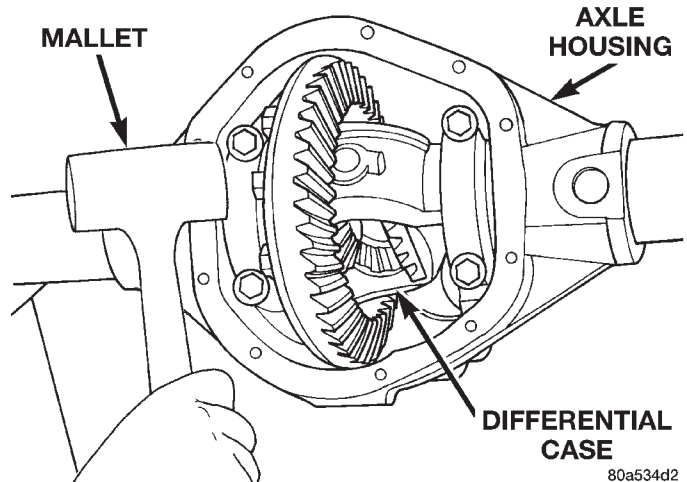
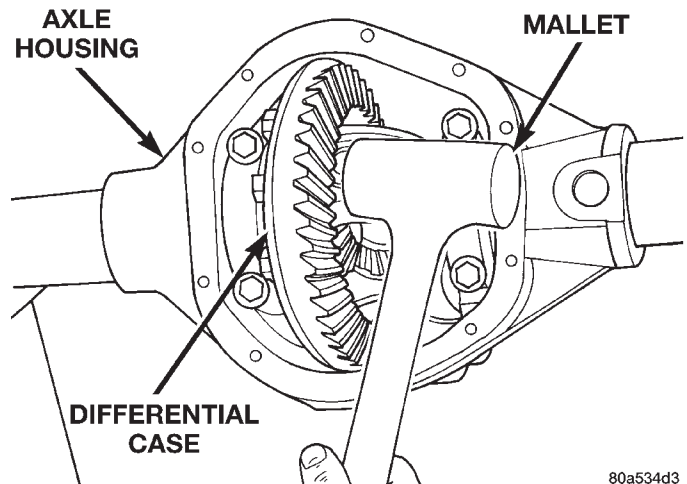

Fig. 83 Seat Pinion Gear Side Dummy Bearing
Fig. 84 Seat Ring Gear Side Dummy Bearing
(6) Install the marked bearing caps in their correct positions. Install and snug the bolts.
(7) Using a dead-blow type mallet, seat the differential dummy bearings to each side of the axle housing (Fig. 83) and (Fig. 84).